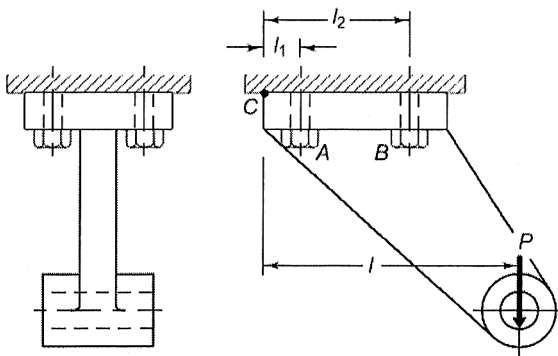

Fig. Q4a
4. (a) A cast iron bracket is fixed to the steel structure is shown in Fig. Q4a. It is supposed to support a maximum load (P) of 25kN. There are two bolts (M36 × 2) each at A and at B and the same are made of plain carbon steel (30C8). The distances are as follows, $l_1 = 50$ mm, $l_2 = 200$ mm, $l = 400$ mm. Determine the factor of safety of the system considering the failure of the bolts. [10]